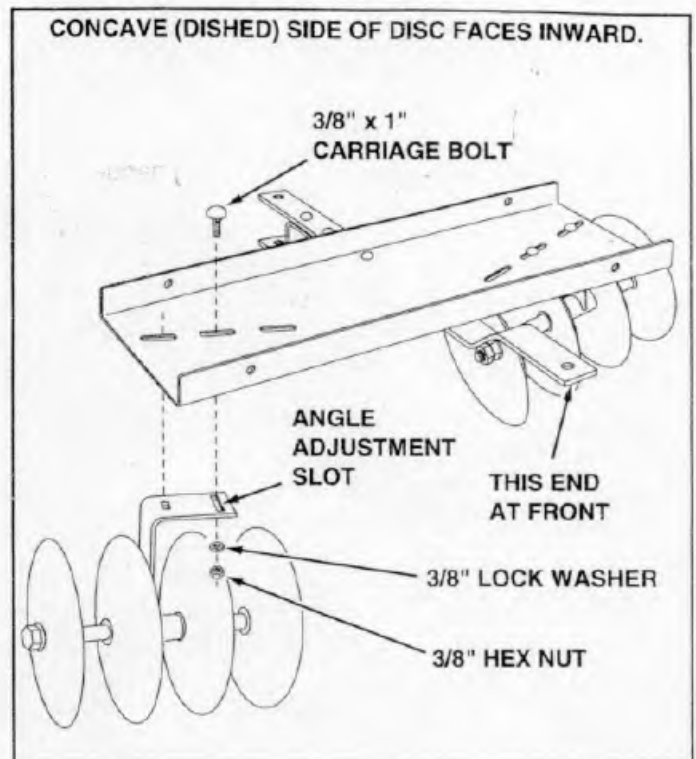

FIGURE 6
6. Assemble the disc assemblies to the **outer** slots in the tray using four 3/8" x 1" carriage bolts, 3/8" lock washers and 3/8" hex nuts. Swivel the disc assemblies so that the carriage bolt is centered in the angle adjustment slot. This places the discs at the standard 15 degree angle. **Tighten.** See figure 6.